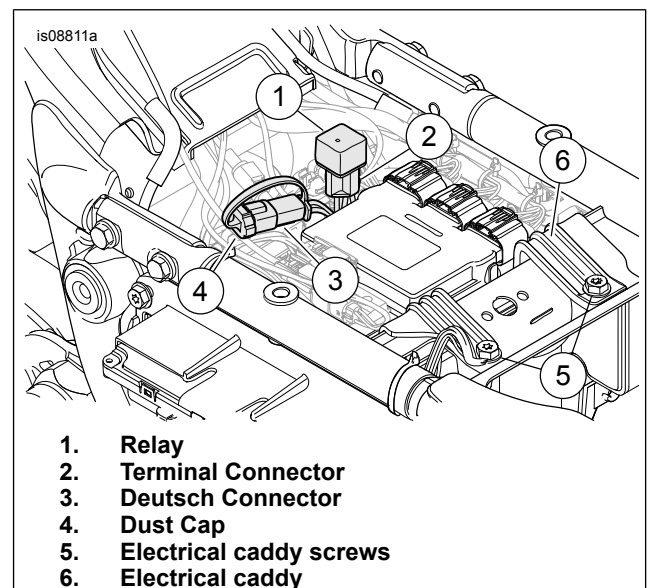
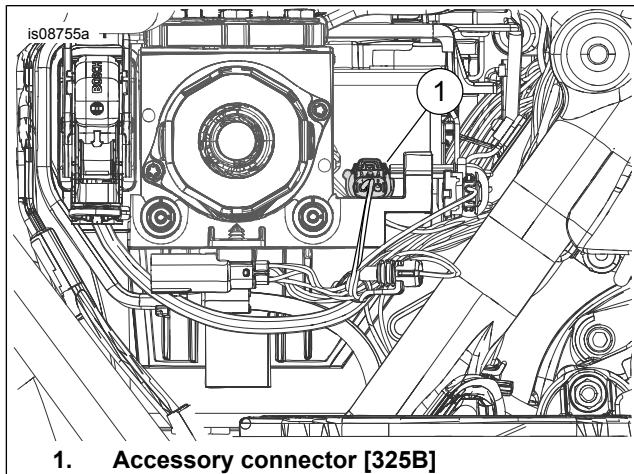
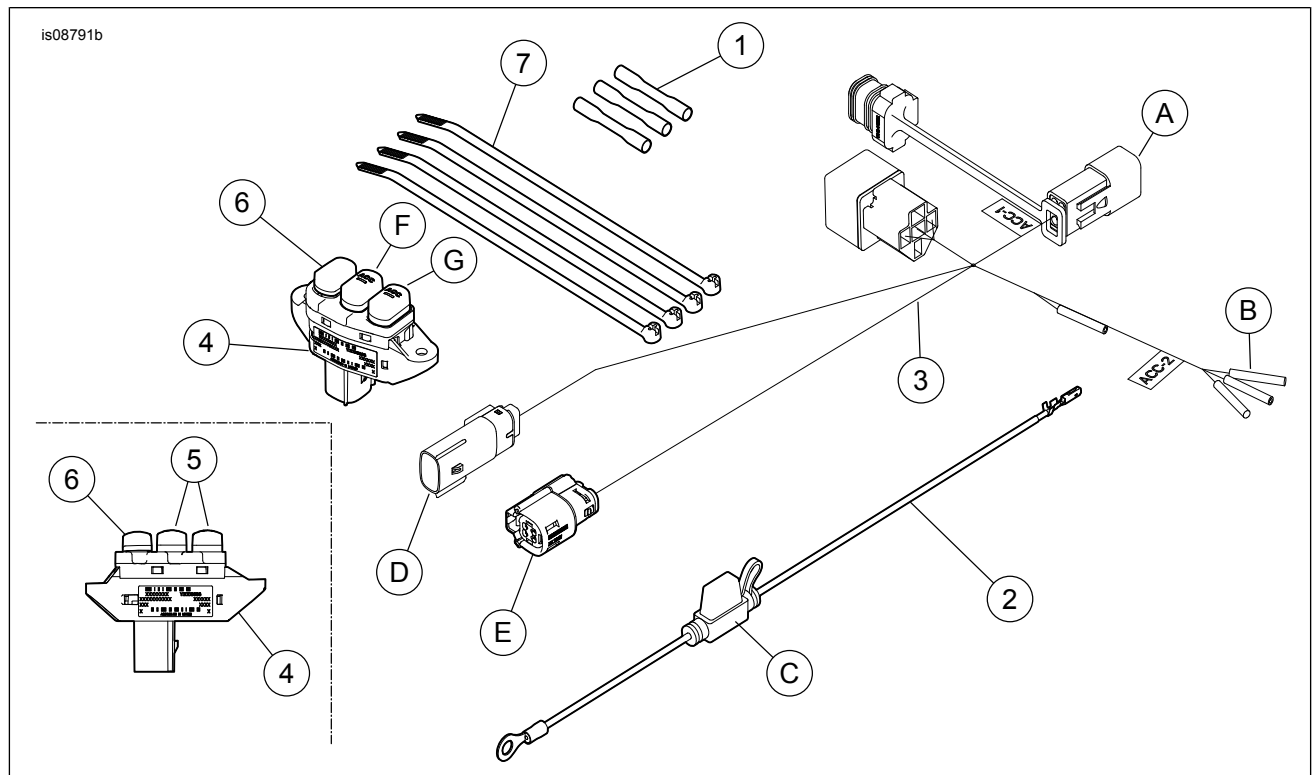

Figure 1. Relay, Dust Cap, Caddy, Terminal and Molex Connector
Figure 2. Accessory Connector
Figure 4. Service Parts, Electrical Connection Harness
See Figure 4 and Table 1.
4. See Figure 1. Remove the two electrical caddy screws (5). Lift the electrical caddy (6) to gain access to battery.
1. See Figure 4. Remove the fuse (8) from the inline fuse holder (C).
2. See Figure 2. Locate P&A accessory connector (1) [325B] (a black, three-way Molex pin housing with a weather cap) attached under the right side cover.
3. See Figure 4 and Table 1. Release the secondary lock of accessory connector [325B]. Insert the terminal end of the fused harness (2) into cavity 3. Press the secondary lock downward. See the service manual.
4. Route the ring terminal side of fused harness (2) up the frame member, across the front of the battery and up the positive terminal by following the stock harness.
5. Remove the positive battery terminal bolt. Install the ring side of fused harness (2) to positive terminal. Position the fuse holder so it can be accessed. Do not install fuse now.
6. Route auxiliary harness (3) toward the front of vehicle, through the frame to the front of the battery area by following the stock harness.
7. See Figure 1. Position relay (1) with the terminal connector (2) facing down. Keep the dust cap (4) on the Deutsch connector (3) while not in use.
8. See Figure 2. Remove dust cap from three-way Molex connector (1) [325B]. Connect with connector (D) [325A] shown in Figure 4.
10. Remove the dust cap (1) from connector (2) [4A] and connect with connector (E) [4B] shown in Figure 4.
12. See Figure 4. Connect the accessories to either the four way connector (A) or the splice caps (B).
13. Connect stock harness connector [105RA] located under the switch hole plug to dash panel switch (4).
1. See Figure 4. Install 10A fuse in the fuse holder of the fused harness (2).